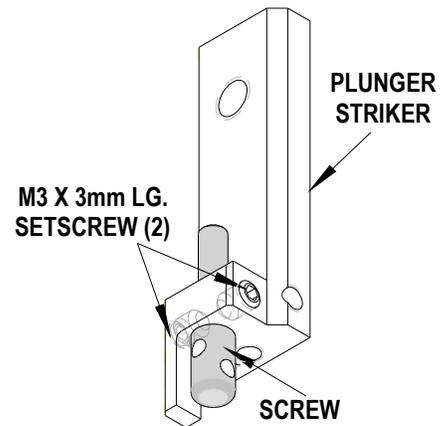

Figure 1
1. The screw is provided for wire straightening. See Figure 1.
2. Loosen the (2) M3 x 3mm long setscrews; see Figure 1, before turning the screw.
4. Continue to adjust the length of the screw until the wire appears to be straight after crimping. If wire Bend Down exists, turn the screw a quarter turn clockwise (CW) to shorten it. Continue to adjust the length of the screw until the wire appears to be straight after crimping.